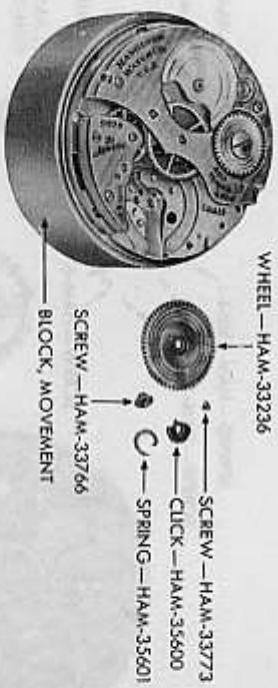

Figure 61 — Hamilton Pocket Watch — Ratchet Wheel and Click Assembly Removed
- m. Remove Click and Ratchet Wheel Assemblies (fig. 61). Remove ratchet wheel click screw, ratchet wheel click, and click spring. Remove ratchet wheel screw and ratchet wheel.
g. **Replace Winding Assembly (fig. 61).** Invert movement on movement block and replace click spring, allowing it to rest in the hole in the pillar plate. Place click over its stud, with bent end of click spring resting in the hole in click. Replace click screw and secure. Replace ratchet wheel, fitting it on the square of the main-spring barrel arbor. Replace screw and secure. At this point, an examination must be made to check freedom of the train. Do this by winding the mainspring one full turn with the key winder; if wheels of train backlash on reaching the end of the winding, the train has perfect freedom. If they stop abruptly or slow down and gradually stop, a bind exists and must be corrected.